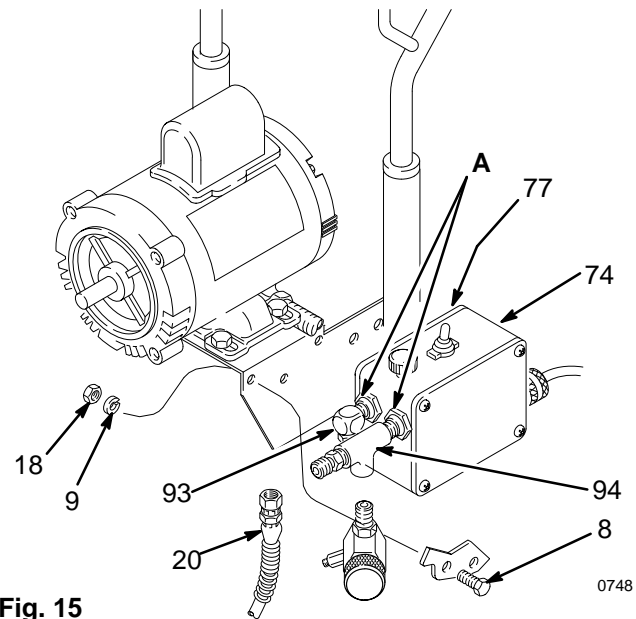

Fig. 15
2. Disconnect the hose (20). See Fig. 15.
4. Remove the mounting screws (8). See Fig. 15.
6. Remove the mounting bracket (77). Remove the fittings (93,94). Install these parts on the new pressure control. See Fig. 15.